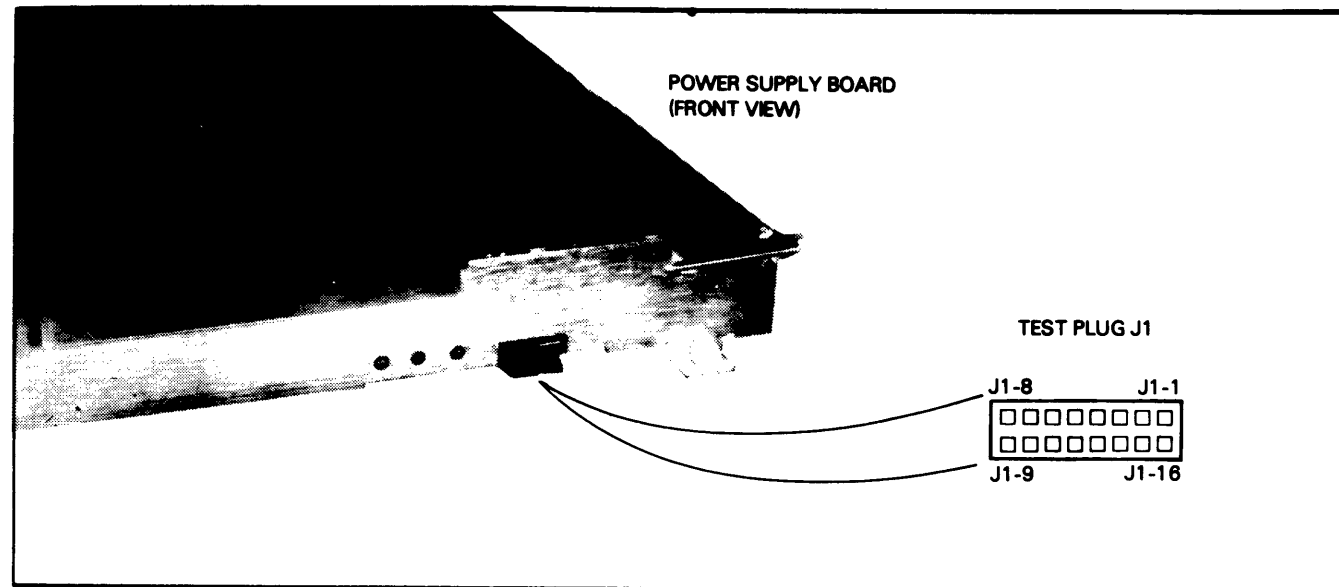

Figure 6.8 Test Plug
6. Recheck the +5V voltage at test plug J1-15 (see Figure 6.8). If it is between 5.10V and 5.20V, go to "Final Checkout"; otherwise, try replacing the internal cable (wiring harness). If this does not work, get help from DGC Field Service.
- Make sure the LOCK switch is in the UNLOCK position. If the fans still do not stop, check the $\overline{\text{PWR FAIL}}$ voltage at test plug J1-3 (see Figure 6.8).
- If $\overline{\text{PWR FAIL}}$ is less than 0.4V, check PON at test plug J1-11 (see Figure 6.8). If PON is less than 0.4V, replace the VNR unit; otherwise, replace the power supply board.
2. Check the +5V voltage at test plug J1-15 (see Figure 6.8). If +5V is between 5.10V and 5.20V, go to "Final Checkout"; otherwise, continue the checkout.
- If -11V is NOT between -11.0V and -12.5V (-30VNR not ok), check the VREF at test plug J1-14 (see figure 6.8). If VREF is 5.8V, replace the VNR unit; otherwise, replace the power supply board.
- If -11V is between -11.0V and -12.5V (-30VNR ok), check the HVS voltage at test plug J1-4 (see Figure 6.8). If HVS is greater than 2.9V, replace the power supply board; otherwise, replace the VNR unit.